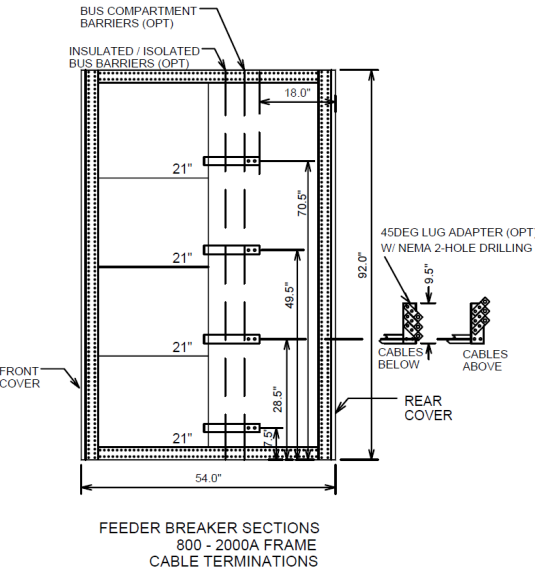

Figure 5.12: Feeder breaker cable termination sections: 800 A – 2000 A breaker
Cables used for low voltage power circuit breaker terminations in AKD-20 (with the exception of non-AR breakers rated 2000A or less) must have minimum 90°C insulation while the cable ampacity will be based on a 75°C rating. This meets the requirements of ANSI C37.20.1, UL1558 and the National Electrical Code. Refer to the example for typical cable ampacities (derating factors that may apply are not shown). Figure 5.12 shows four-high feeder breaker sections and runback locations with and without optional 45° lug adapters for cables above or below.
**Table 5.1: Feeder breaker cable termination provisions (refer to Figure 5.12)\***